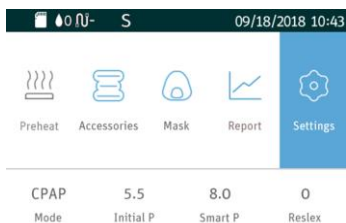

Fig. 16-3
**Note:** The above interface only applicable to the device, it does not activate the SmartC, SmartA or SmartB. If the SmartC, SmartA or SmartB is enabled, the symbol **S** will appear in the status bar at the top of the screen, as shown in Fig. 16-3.
**Note:** If the humidity level is off, the Preheat Icon  will Turn gray, as shown in Fig. 16-3.